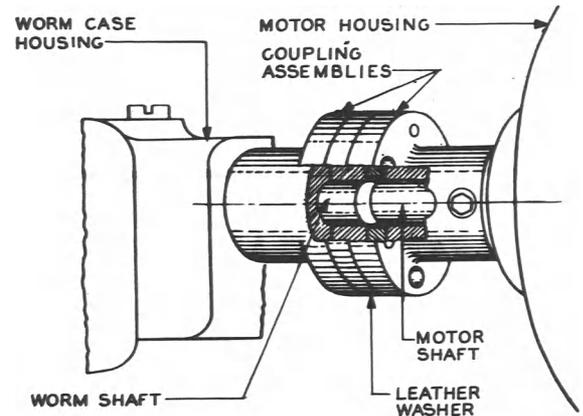

Fig. 12 - Alignment of Worm and Motor Shafts
(9) After sealing and securing the gear case or the bearing box insert the drain plug as covered in 3.03 and then fill the gear case or bearing box with oil to approximately the maximum limit specified in requirement 2.02. If leaking is noted, the joint will have to be broken and resealed in accordance with the foregoing procedures.
(10) After the sealing compound has hardened, touch up the joint with a quick drying paint that matches the finish.
(11) If it is necessary to remove the worm case housing due to leaking at the joints, examine the oil hole in the housing around the worm shaft to see that it is not clogged. Take care in remounting the worm case housing to insure that the worm gear fully engages its associated gear, also that the housing is so set that the coupling assembly of the motor will line up with the associated coupling assembly of the motor as shown in Fig. 12. This may be accomplished by coupling the motor to the drive before the mounting screws are fully set up. The housing can then be shifted to correct any misalignment. If it is necessary to shift the housing, check that the gear case cover rests flush with the housing so that the joint may be properly sealed, as covered above.